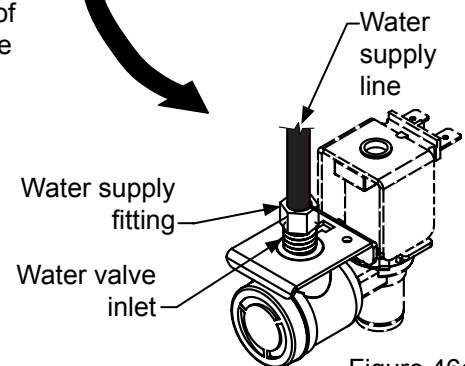
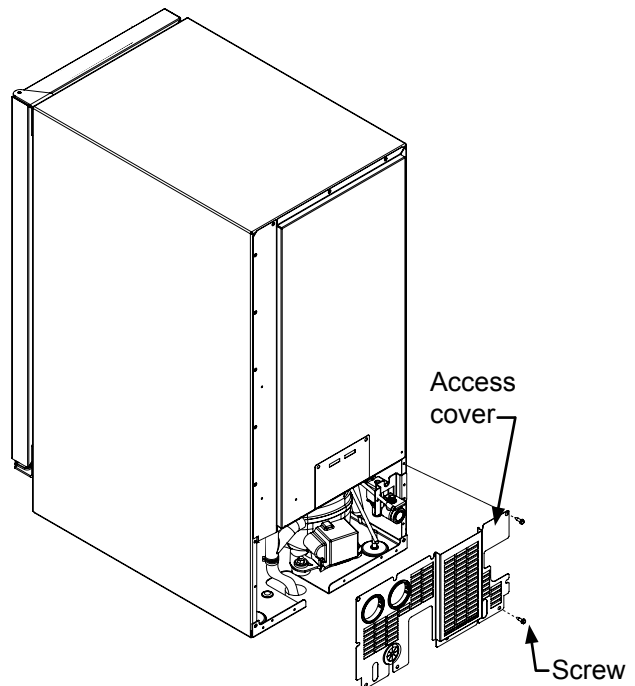

Figure 46a
Figure 47
2. Disconnect the water supply fitting at the inlet of the water valve. (See Figure 46a).
3. Change the electronic control to the "CLEAN" position for approximately one (1) minute. This will energize and open the water valve and remove most of the water from the water valve and the water valve's outlet water line to the reservoir.
6. Remove the access cover from the rear of the ice machine. (See Figure 47).